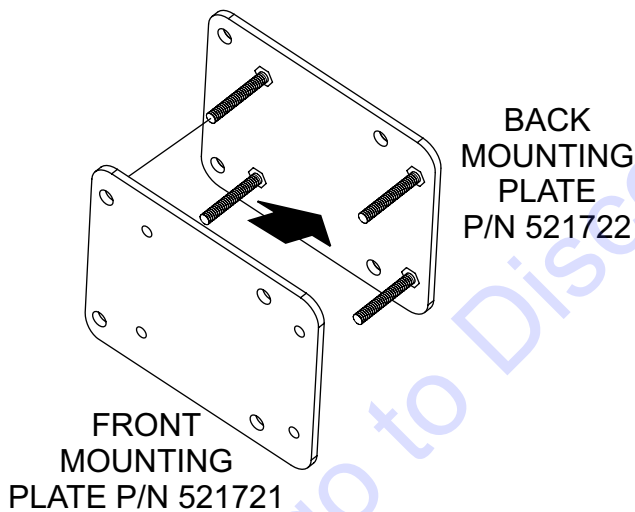

Figure 6. Pump Front Mounting Plate
1. Align pump front mounting plate P/N 521721 with the four 3/16" X 1-1/4" screws that are protruding from the back mounting plate as shown in Figure 6.